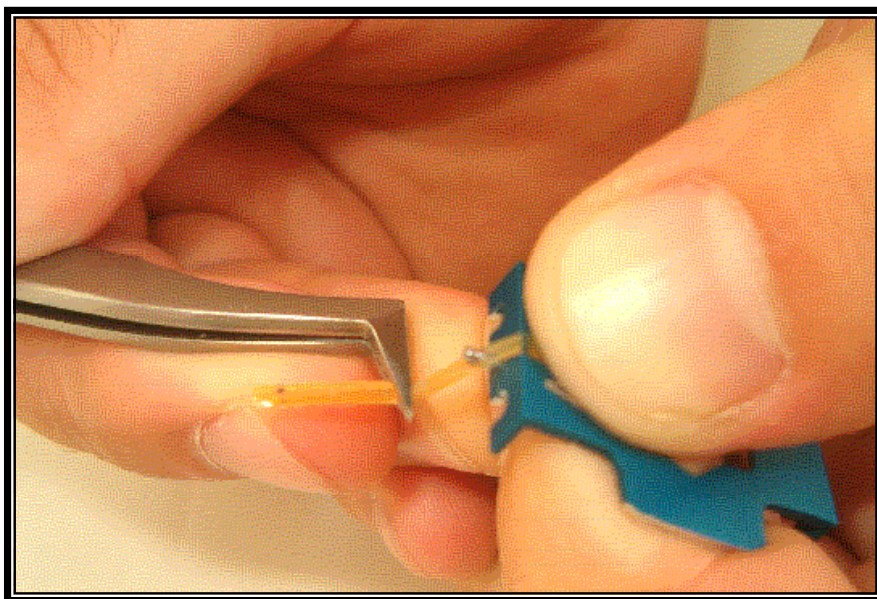

Fig. 2.27: Placing a new rubber strip
4. Take a new rubber strip and place it in the top part of the cantilever holder. The two points in the rubber strip show the position of the holes used to fix it to the top part of the cantilever holder. Place one side of the rubber strip, holding it with your fingers and the tweezers. A possible way to do this is shown in Fig. 2.27.